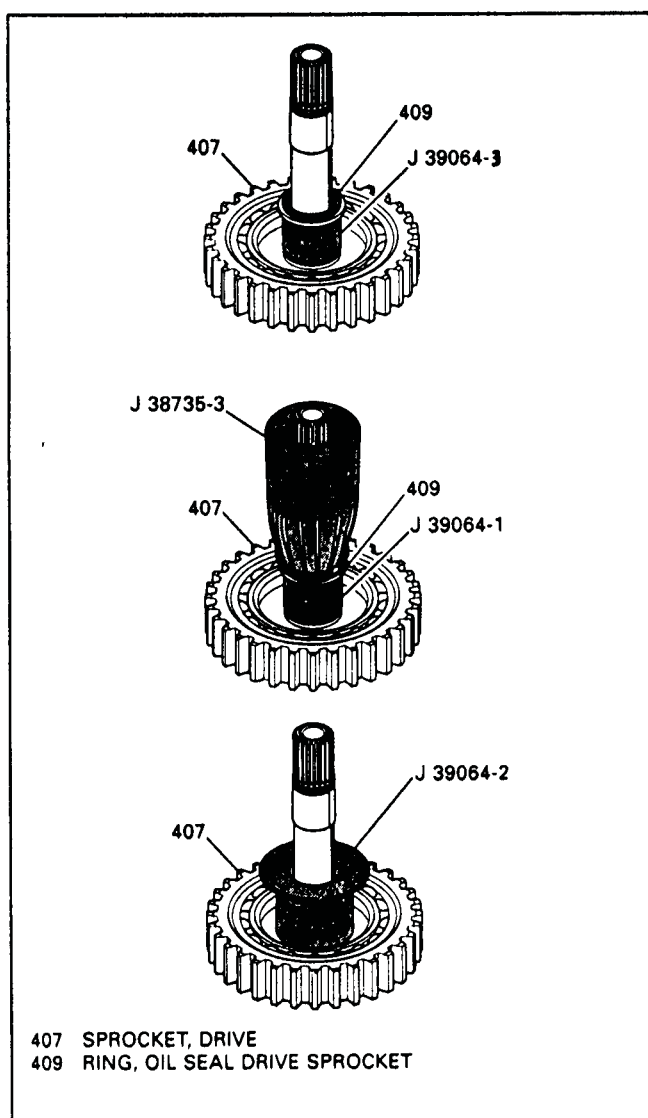

Figure 103
2. Place tool J-39064-1 on drive sprocket as shown in Figure 103.
3. Place new drive sprocket seal on top of J-39064-1 as shown in Figure 103.
4. Using J-39064-3 installer, quickly push down and install seal into groove. (See Figure 103).
5. Use J-39064-2 to re-size the seal to proper size, as shown in Figure 103.